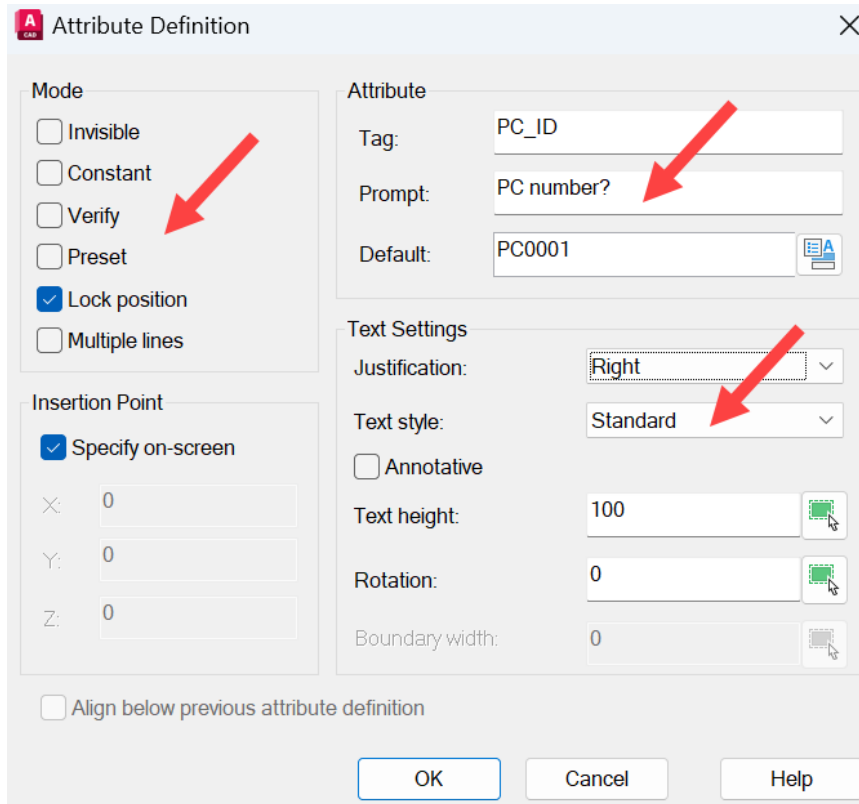

Figure 10.6: The Attribute Definition dialog box
6. This will start the **Define Attributes** (*ATTDEF*) command, and the **Attribute Definition** dialog box will appear, as shown in *Figure 10.6*.
- **Text Settings:** Set **Justification** and **Text style** to what is shown in *Figure 10.6*. A **Text height** value of 100 is used as the drawing is in metric millimeters, which works as a suitable attribute size for this drawing.